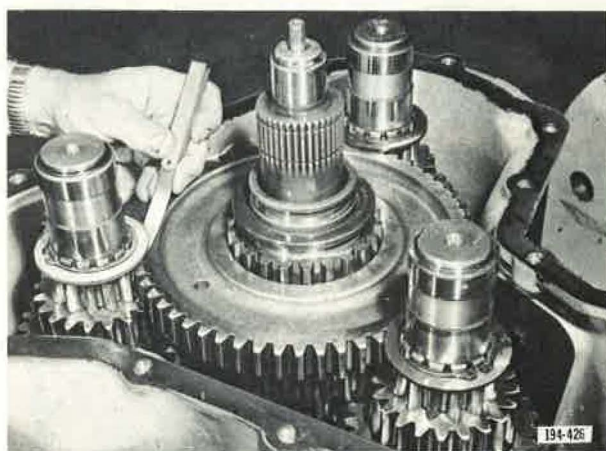

Figure 54. Checking End-Play Clearance
16. Check recommended end-play clearance (each countershaft) by inserting a feeler gage between first speed gear and countershaft selective thrust washer. See Figure 54. Hold each thrust washer squarely against its retaining snap ring when inserting feeler gage. Refer to "Screw Torques and Adjustment Chart" for selective thrust washers to obtain recommended end-play.